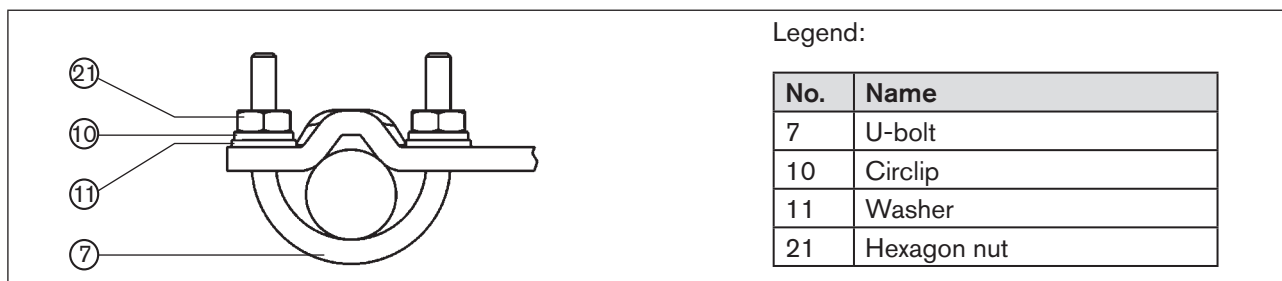

Figure 18: Attach Type 8792/8793 with mounting bracket; for actuators with columnar yoke
→ Attach mounting bracket to the columnar yoke with the U-bolt ⑦, washers ⑪, circlips ⑩ and hexagon nuts ②① (see "Figure 18").